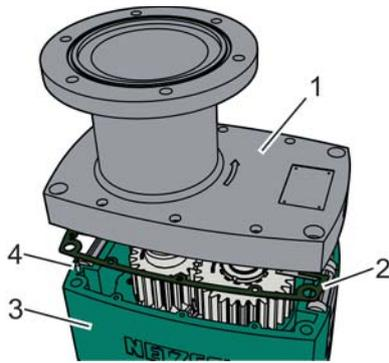

Fig. 92: Lifting off the gear cover, example
Lift the gear cover (Fig. 92/1) from the gearbox housing (Fig. 92/3) with the assistance of a second person and place to the side.
3. ➔ Remove the flat seal (Fig. 92/2) from the positioning pins (Fig. 92/4), clean with a lint-free cleaning cloth, check for damage and place to the side.